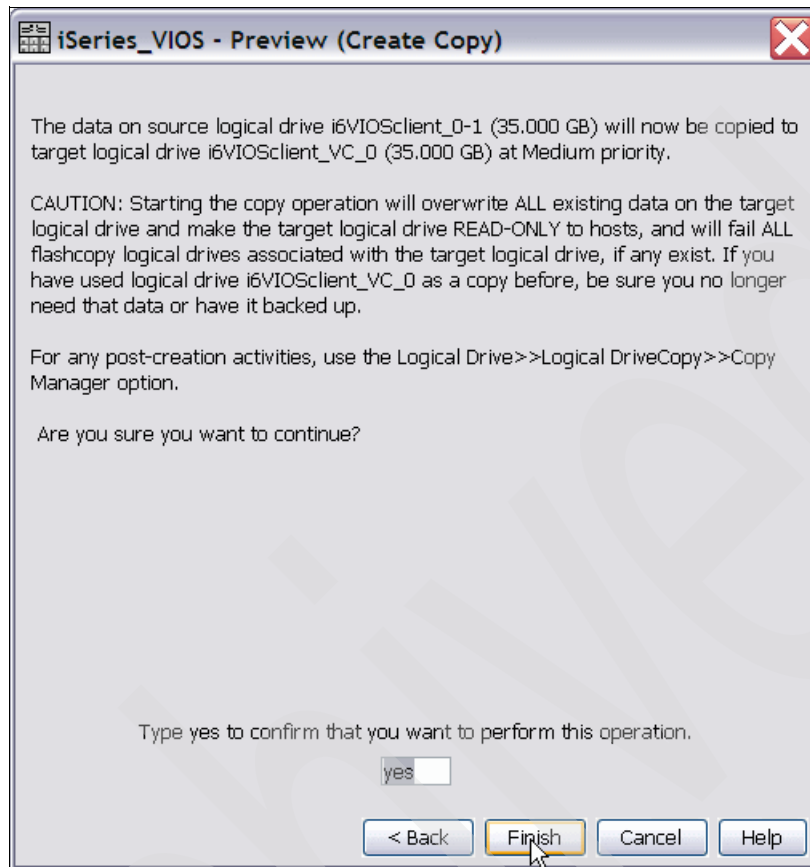

Figure 8-24 Confirm to create Volume Copy
7. Type Yes in the confirmation window (Figure 8-24). In next window we specify Yes to copy another logical drive.